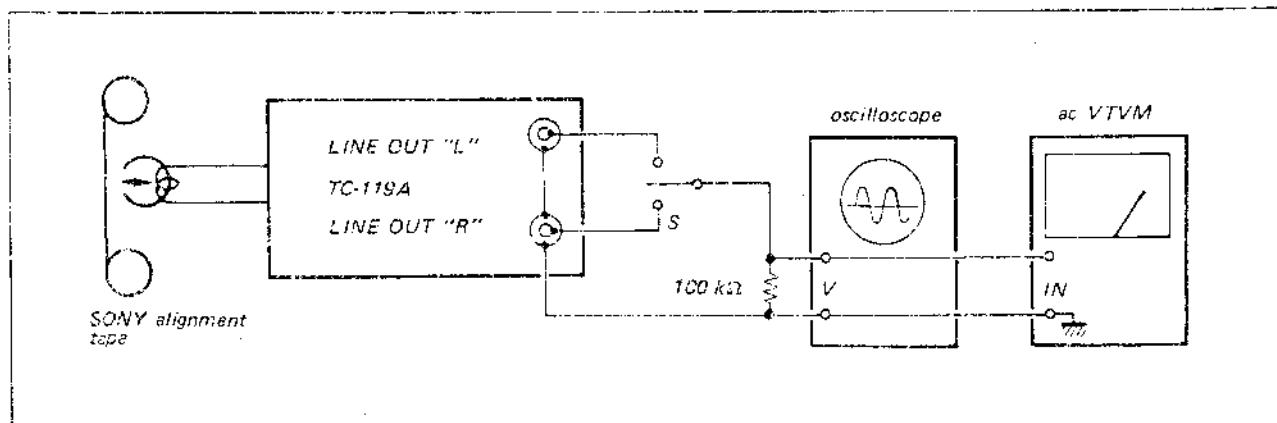

Fig. 4-3. Head-azimuth adjustment and playback-level adjustment test setup
- With the equipment connected as shown in Fig. 4-3, play back the SONY alignment tape P-4-AS1.
- With the equipment connected as shown in Fig. 4-3, play back the SONY alignment tape P-4-L81.